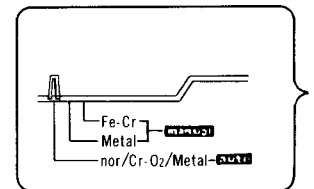

Fig. 27
- When the tape used is provided with metal tape mode detection hole, set the tape selector located at the back of the set to auto position (fig. 27).
- Set the tape selector located at the back of the set to auto position (fig. 27).
- When the tape used is provided with CrO₂ tape mode detection hole, set the tape selector located at the back of the set to auto position (fig. 27).
- When the tape used is not provided with the CrO₂ tape detection hole, set the tape selector to auto position and, as shown in fig. 27, pull out the 6 pin socket-ⓧ, and short-circuit the terminal of the 6 pin post-ⓧ as shown in fig. 30, then the circuit is set to CrO₂ mode.